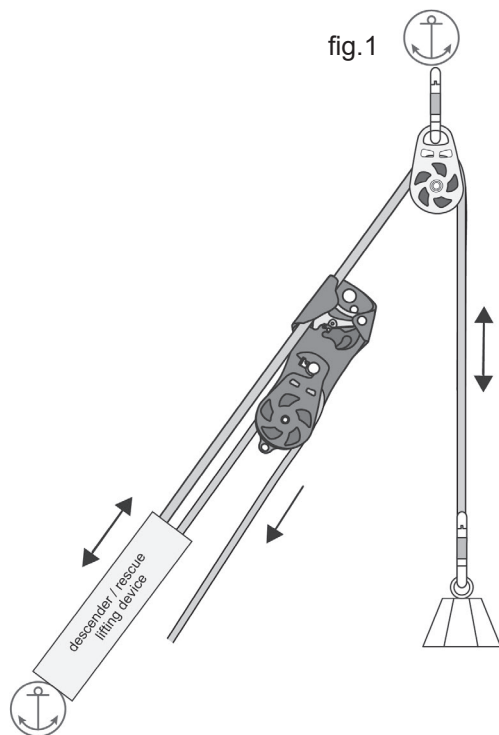

fig. 1
- The Hurricane has been specifically developed to simplify the creation of rescue hauling systems, such as 3:1 (z-rig) employed with descenders (EN341 & EN12841 Type C) and rescue lifting device (EN1496) as shown in fig. 1